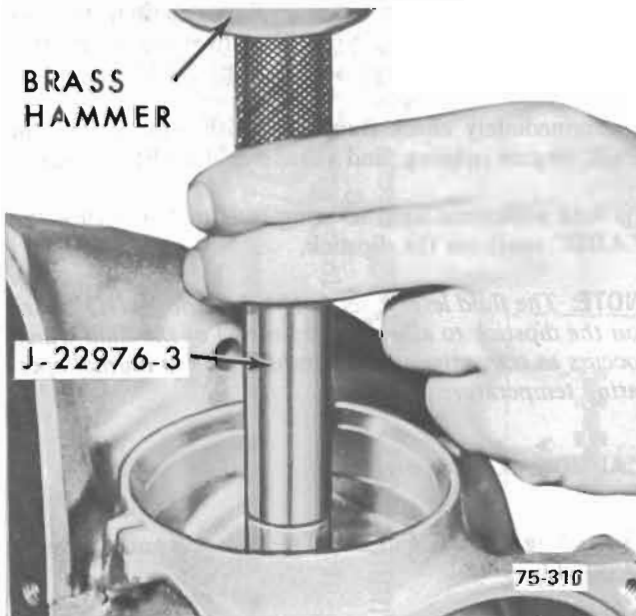

Figure 76-285
c. Use J-22976-3 alignment arbor and bushing installer to drive the bushing into the case. See Figure 76-285.